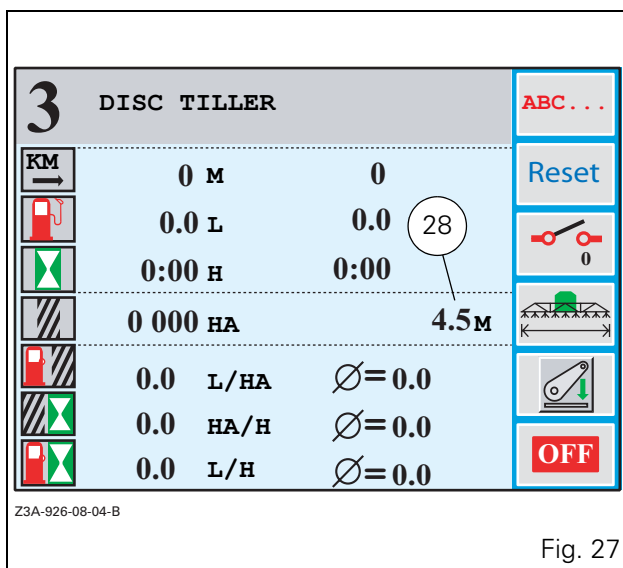
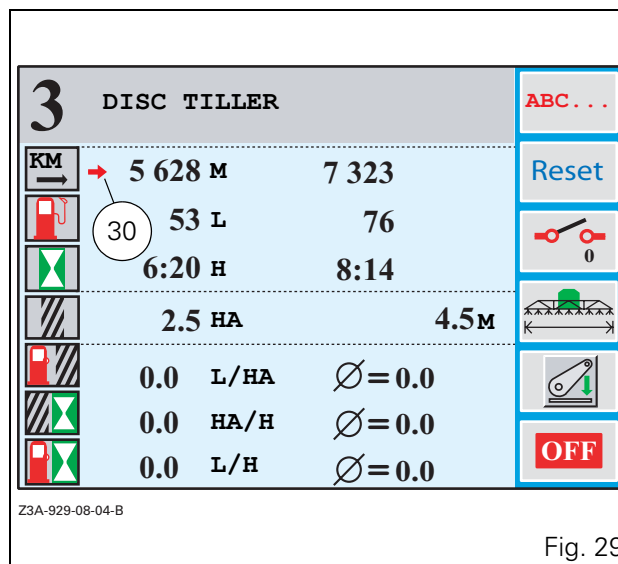

Fig. 27
Fig. 29
- Validate the width by pressing the encoder. The window (Fig. 27) is displayed.
The MEMORIES application can be used to perform a manual count of, for example, the number of trailers carried during a working day. For this, press the key «₃ when the window (Fig. 29) is open. Each successive press increments the value by 1 point.
- Press the key «₂ when the window (Fig. 27) is open. A mark facing the total fuel used is displayed (30 Fig. 29).